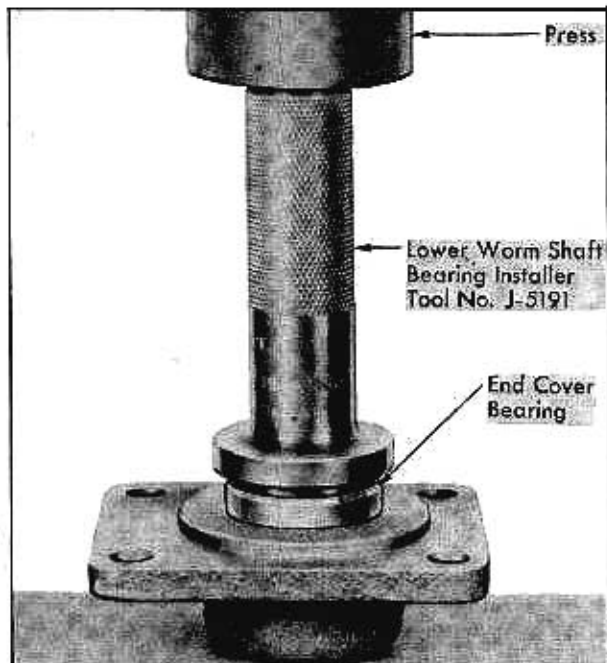

Fig. 7-30 Installing End Cover Bearing
5. Press bearing into end cover using Tool No. J-5191. See Fig. 7-30.